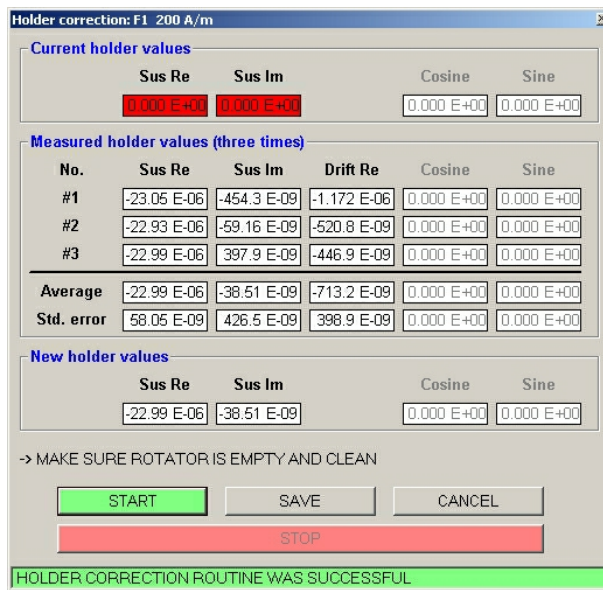

Figure 7: Holder correction window
1. Open the *Holder correction* window (Fig. 7, main menu *Execution/Holder correction*, shortcut F4).